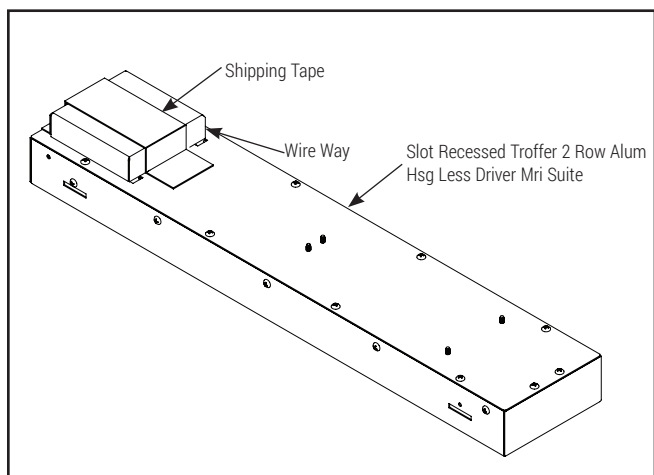

Figure 1.
3. Locate fixture wireway cover remove tape and slide to remove it. (Figure 1.)